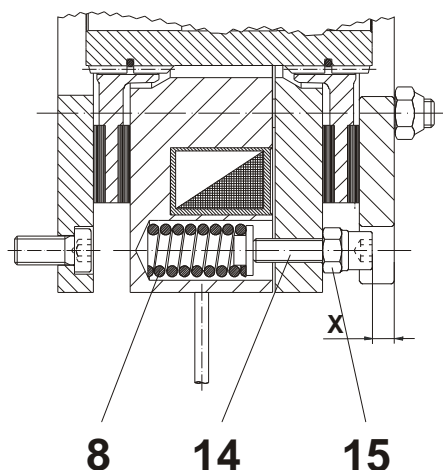

Fig. 5
## Braking torque adjustment (Fig. 5 and Table 2)
ROBA-stop® - Z brakes are adjusted to the nominal torque or braking torque requested in the order at the factory. The braking torque can be reduced continuously up to 50 % via two cap screws (14) (size 2000: 4 pcs.) together with the hexagon nuts (15) by the aid of the dimension "X" (Fig. 5 and Table 3). It has to be observed that both screws are adjusted uniformly and the hexagon nuts are locked again.